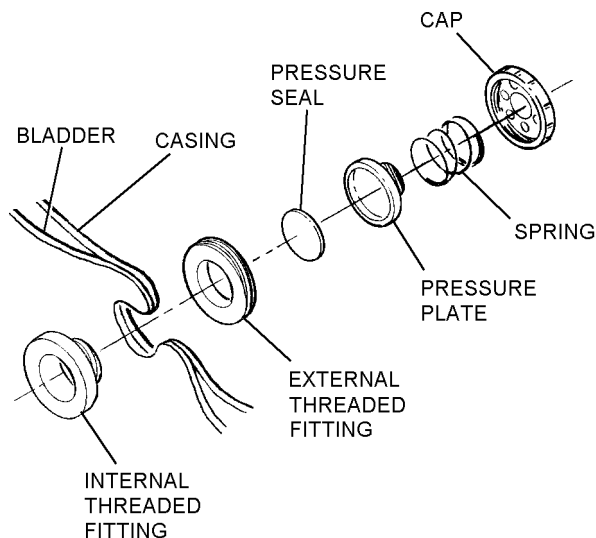

Figure 24-7. Pressure Relief Valve
3. Remove the pressure relief valve. See paragraph 24-63 and figure 24-7.
7. Install pressure relief valve seal. See paragraph 24-63 and figure 24-7.
2. Remove spring and pressure plate from valve body (see figure 24-7).